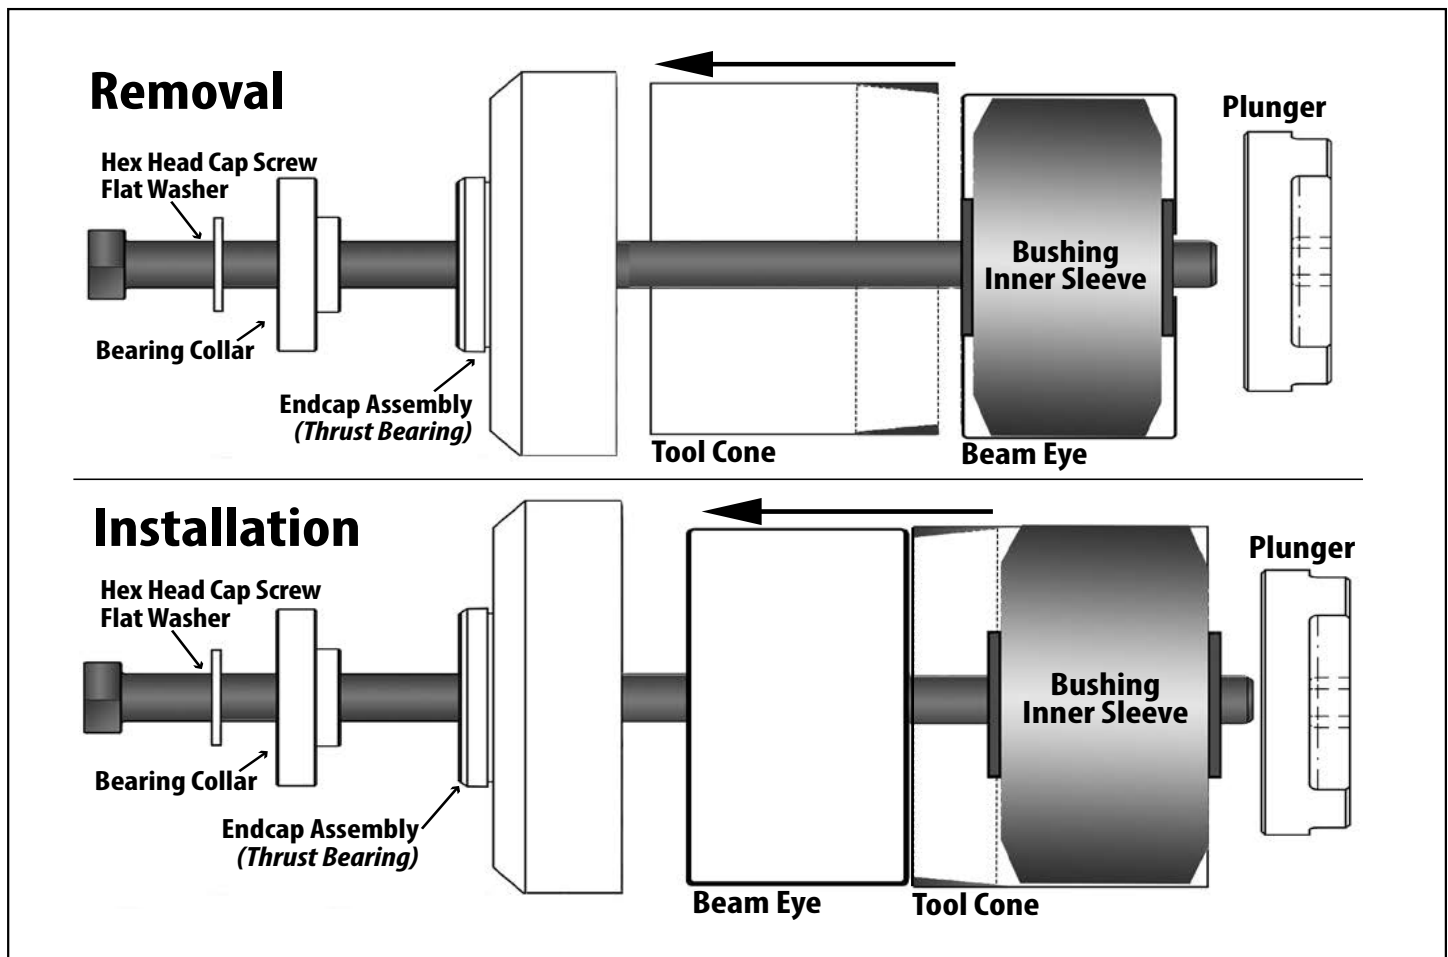

Figure 6.
Thread the flat washer, the bearing collar and the endcap onto the HHCS until the bearing collar and endcap rest against the head of the HHCS. Place tool cone onto endcap (Figure 6).
1. Push the HHCS through the inner sleeve until the tool cone is against the beam eye. Thread the plunger onto the HHCS until the tool cone is held firmly against the beam (Figure 6).